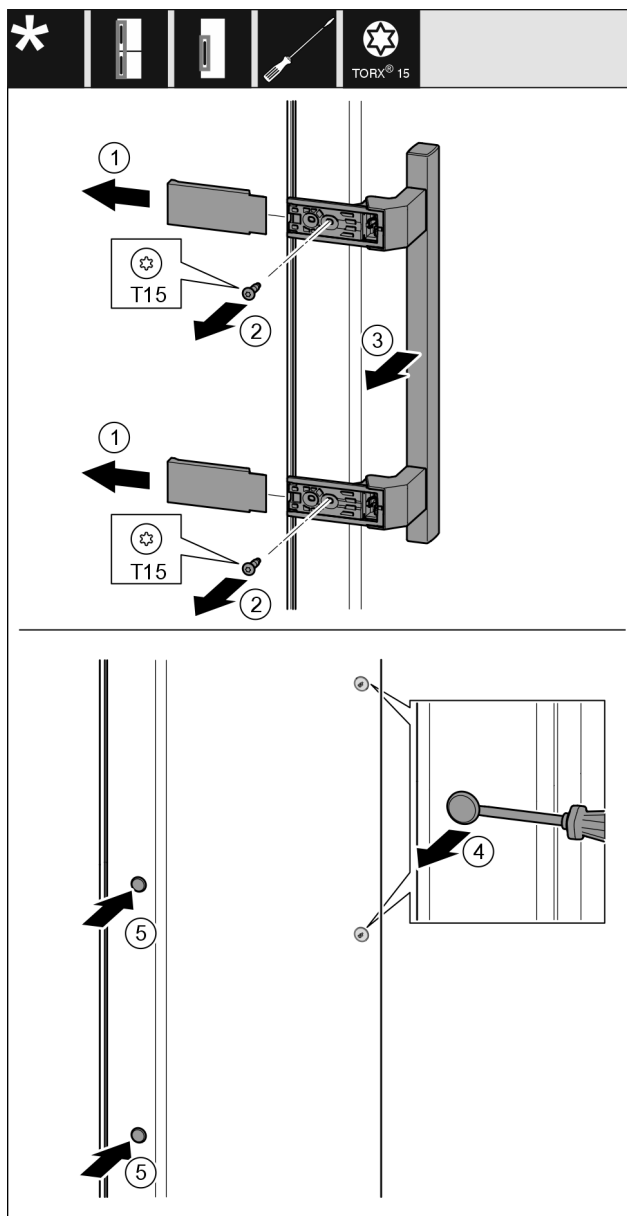

Fig. 21
- Remove the cover *Fig. 21 (1)*.
- Unscrew screws *Fig. 21 (2)* with screwdriver.
- Remove the handle *Fig. 21 (3)*.
- Use a slotted screwdriver to lift the side plug *Fig. 21 (4)* carefully and pull it out.
- Re-insert the plug *Fig. 21 (5)* on the other side.